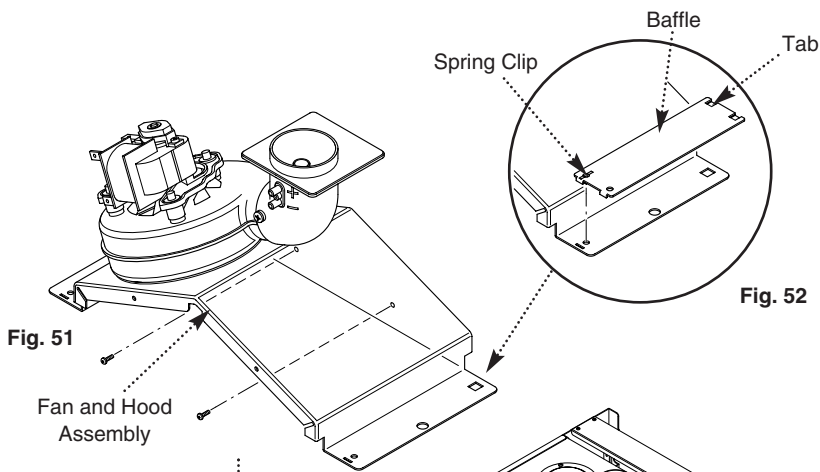

Fig. 52
10. Remove the spring clips retaining the air box side baffle plates. Disengage the tabs on the baffles from the slots in the fan hood (Fig. 52).